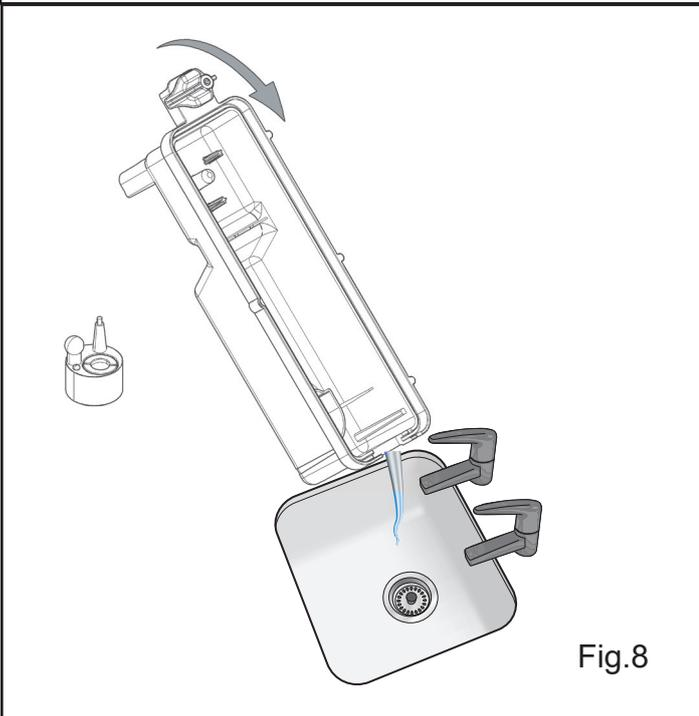

Fig.8
8. Lift out the transducer and carefully tilt, as shown, so that the liquid drains out of the sump. (See Fig.8)